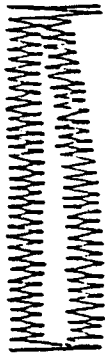

Fig. 31-1
2. Spacing of stitching in each leg is controlled by balance dial (A). If spacing cannot be balanced with dial (A), make note of this for corrective adjustment.
3. Cutting space between the legs should be uniform. Any "tear-dropping", (See Fig. 31-1), is an indication of looseness or stickiness in Alpha feed system.